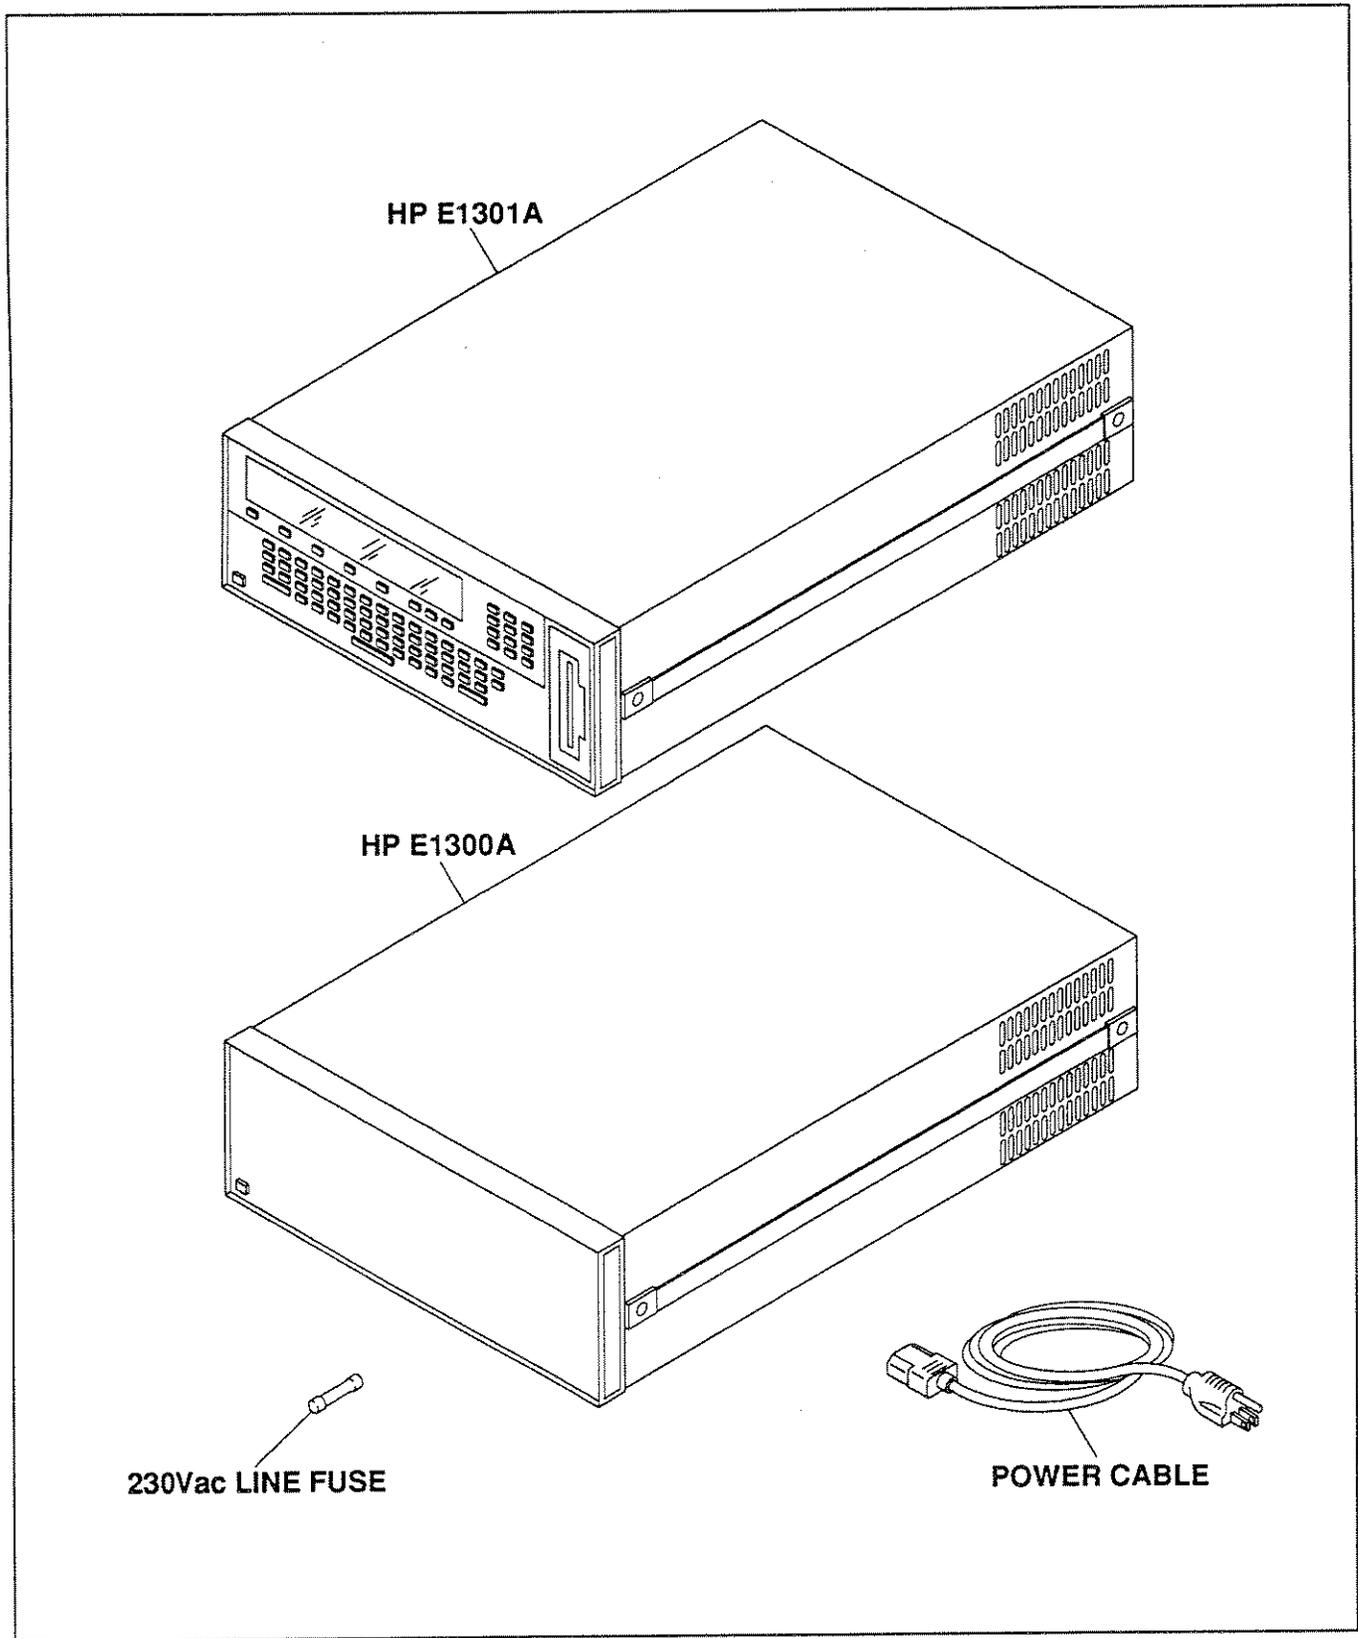

Figure 1-1. HP E1300A/E1301A Mainframes Accessories Supplied
This HP E1300A/E1301A Service Manual contains information required to test, adjust, troubleshoot, and repair the Hewlett-Packard Model E1300A and E1301A B Size VXI Mainframes. Figure 1-1 shows the HP E1300A and E1301A mainframes and externally supplied accessories.
**Accessories Supplied** The accessories supplied with the mainframe are shown in Figure 1-1.
Inspect the shipping container for damage. If the shipping container or cushioning material is damaged, it should be kept until the contents of the shipment have been checked for completeness and the instrument has been checked mechanically and electrically. The contents of the shipment should be as shown in Figure 1-1. Procedures for checking electrical performance are given in Chapter 4.